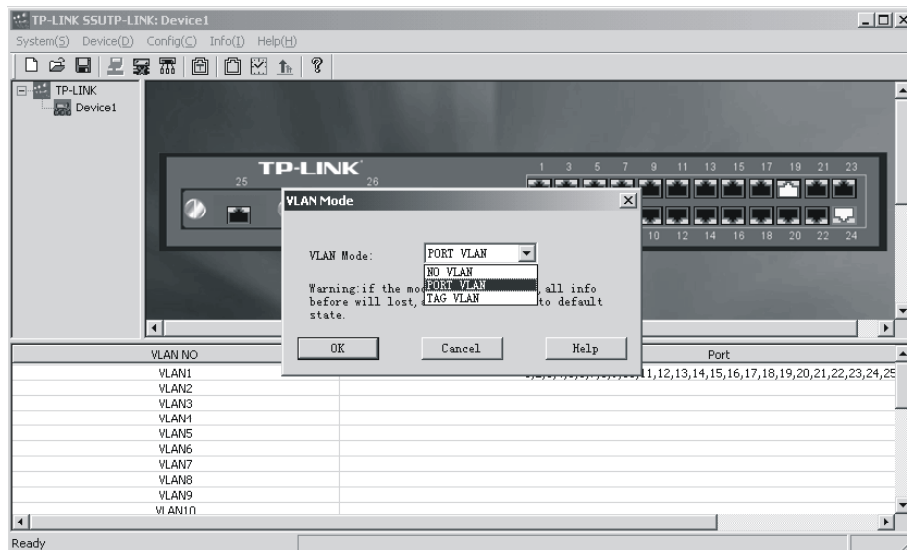

Figure 5-11
**Steps of Setting:** If VLAN mode is no VLAN, or you want to change current VLAN mode, you should select one mode you want to. Click main menu->**config->Switch VLAN Mode**. As figure 5-11.